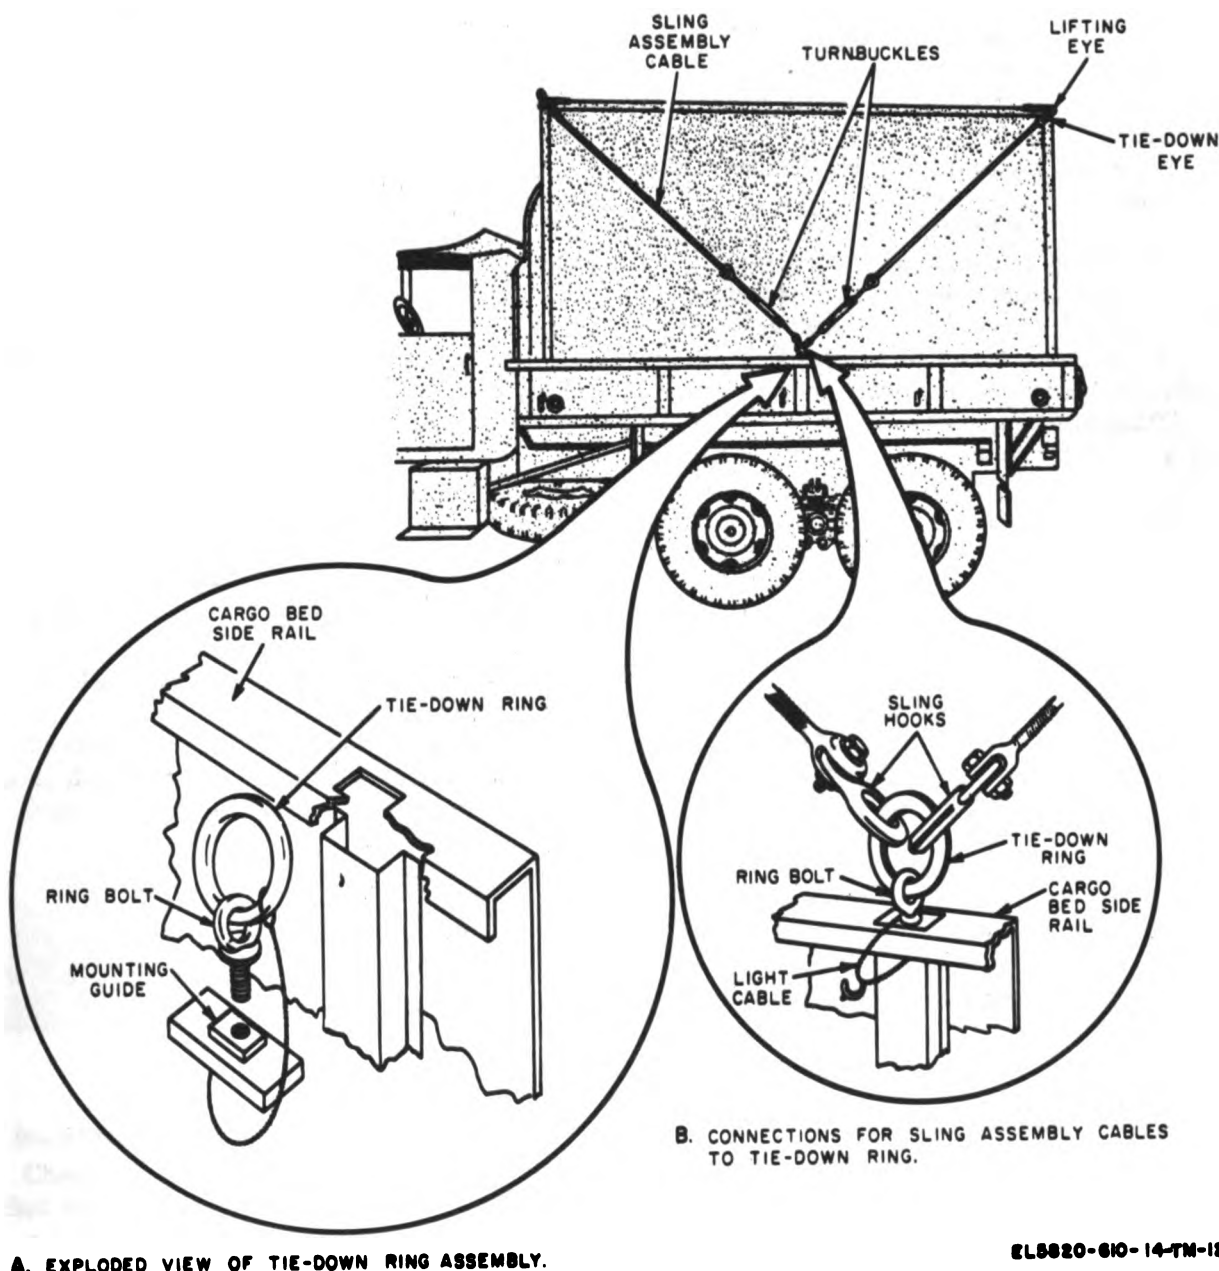

Figure 2-2. Shelter tiedown.
- (1) Lower the truck tailgate.
- (2) Release the locknuts that secure the sling assembly turnbuckles (fig. 2-2) in place, and loosen the turnbuckles.
- (3) Remove the sling assembly hooks closest to the turnbuckles from the tiedown ring assemblies.
- (4) Remove the sling assembly hooks farthest from the turnbuckles from the shelter tiedown eyes.
- (5) Remove the tiedown ring assemblies (A, fig. 2-2) from the center of each cargo-bed side rail.
b. Lifting Shelter (fig. 2-2, 2-3).
(6) Lift the shelter smoothly with a lifting device such as a crane or an M-58 boom. Do not lift the shelter to unnecessary heights during removal from the truck.
(7) Lower the shelter slowly to the desired foundation.
(8) Remove the sling assembly and store it with the shelter.
(9) When it is desired to relocate the shelter, follow the procedure outlined in c below.
c. Securing Shelter to Truck (fig. 2-2).
(1) Install the tiedown ring assembly (A, fig. 2-2) above the center support of each of the truck cargo-bed siderails.
(2) Lift the shelter from its foundation by following the procedures given in b(1) through (6) above.
(3) Lower the truck tailgate, back the truck under the shelter, and lower the shelter into the body of the truck, positioning the front of the shelter against the front of the truck body.
(4) Block the shelter in accordance with TB 750-240.
(5) Secure the sling assembly hooks farthest away from the turnbuckles to each of the four shelter tiedown eyes.
(6) Secure the sling assembly hooks closest to the turnbuckles to the tiedown ring assemblies ((1) above).